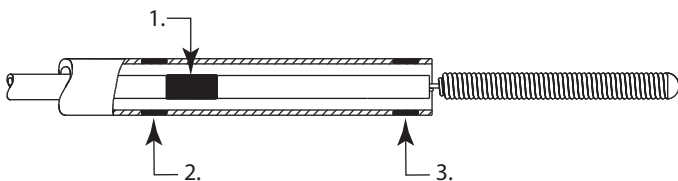

Figure 2
8. Continue to advance the AXIUM™ Detachable Coil until the coil alignment marker of the implant pusher is just distal of the proximal marker of the microcatheter (See Figure 2).